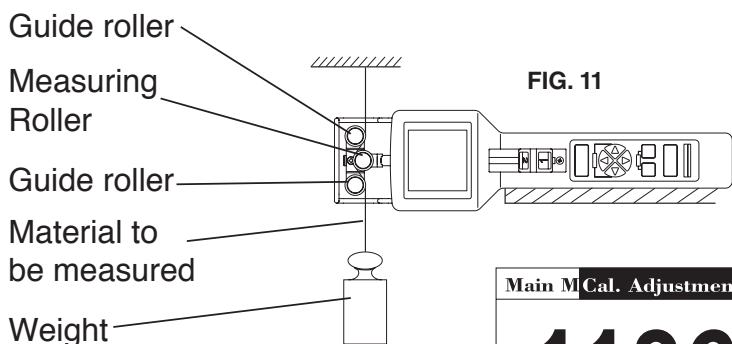

FIG. 11
1. Prepare the measuring setup as shown in Fig. 11